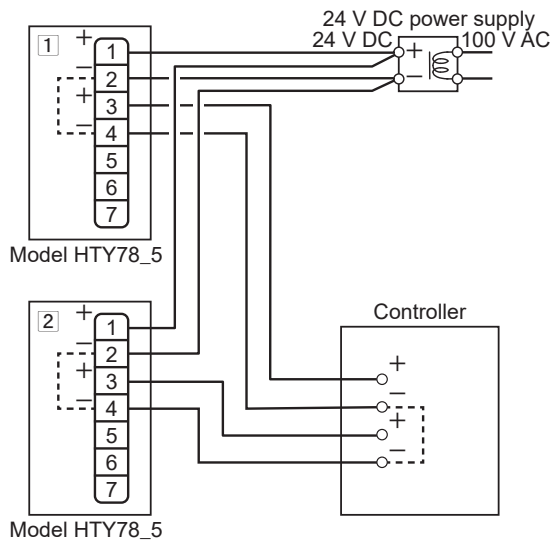

Figure 15.
- Be sure to connect between **1** 1 (+) and **2** 1 (+), between **1** 2 (-) and **2** 2 (-) as shown in Fig. 15.
Note: For the DC power supply, it is the same as installing newly. (Fig. 15.)